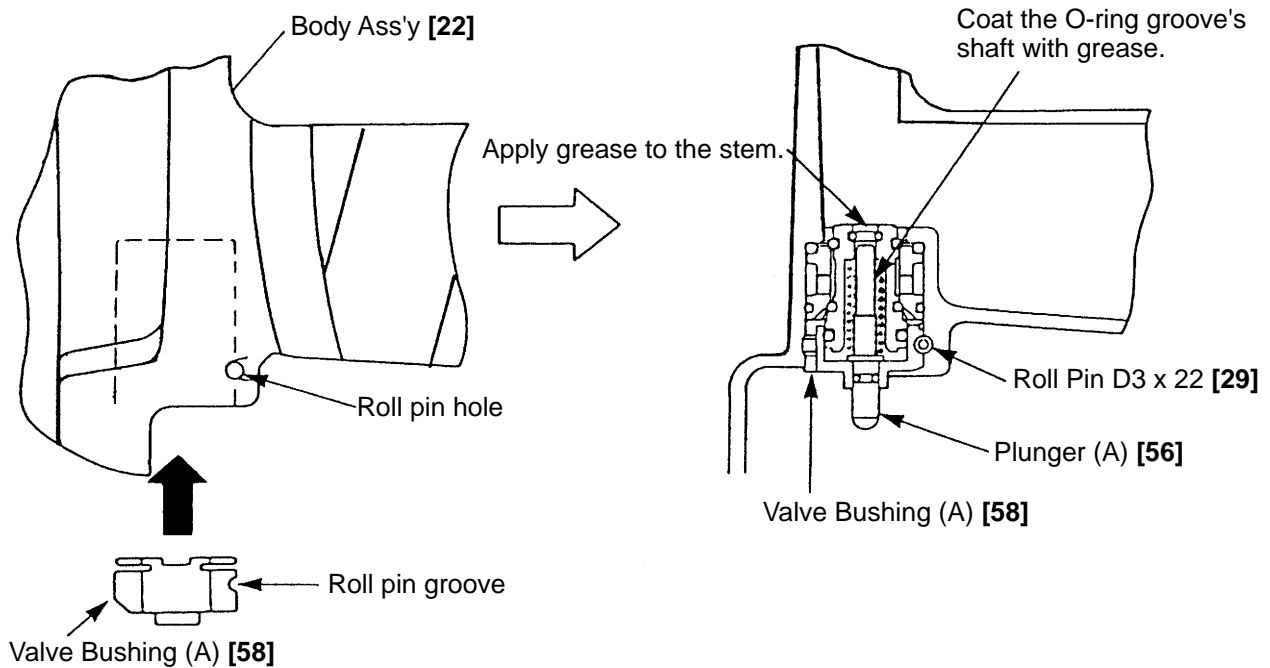

Fig. 8
- Thoroughly apply grease to the O-Ring (I.D 1.8) [57] of Plunger (A) [56], the O-Rings (S-4), (I.D 8.8) and (I.D 11) [51], [53] and [54] of Valve Piston (B) [52], and the shaft of Plunger (A) [56] shown in Fig. 8.
- As shown in Fig. 8, install Valve Bushing (A) [58] so that the roll pin groove in Valve Bushing (A) [58] will be aligned with the roll pin hole in the Body Ass'y [22]. First, insert the roll pin puller (3 mm dia.) into the roll pin hole. Then, upon confirming that the puller passes through the hole, drive in the Roll Pin D3 x 22 [29].